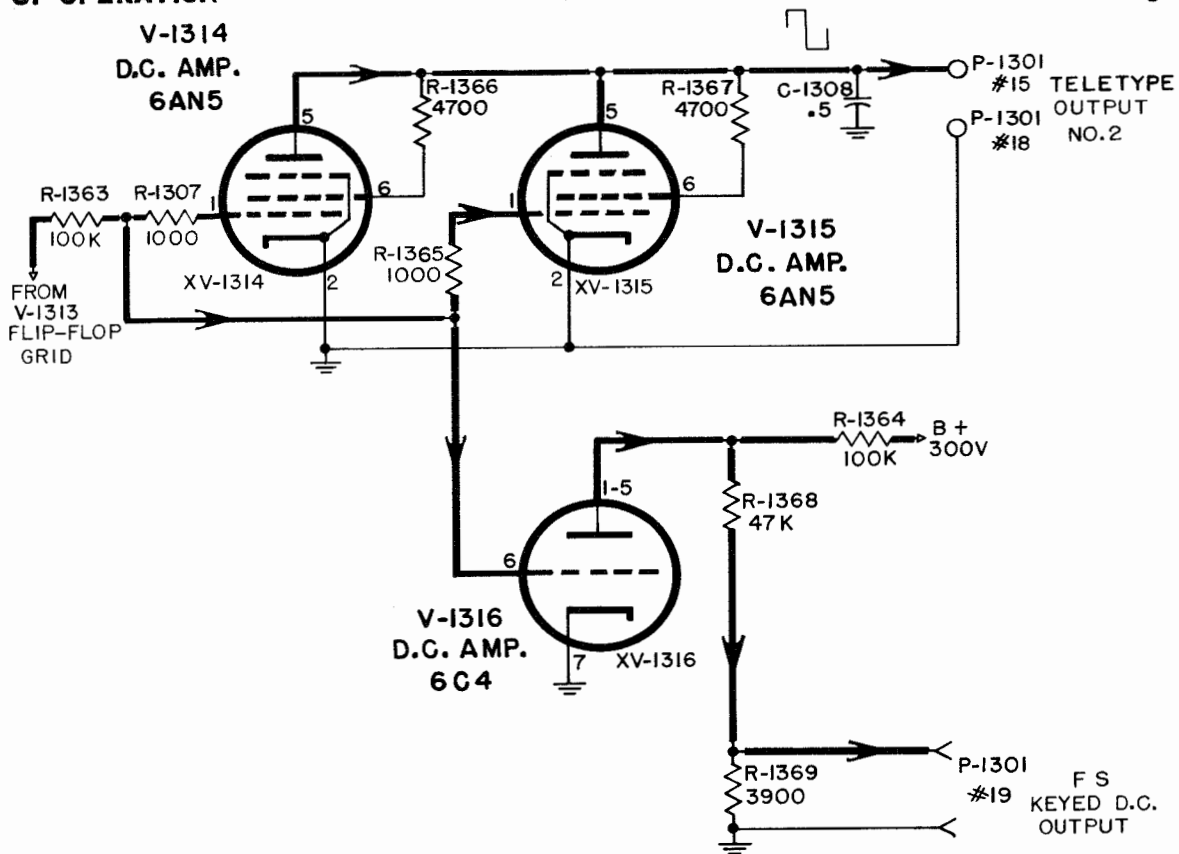

Figure 2-54. D.C. Amplifier Output Stages V-1314, V-1315, V-1316, V-1322, V-1323, V-1324, Simplified Schematic Diagram
(16) D.C. AMPLIFIER OUTPUT CIRCUITS, V-1314, V-1315, V-1316, V-1322, V-1323 AND V-1324 (CM-32/FRR-24). (See Figure 2-54).—Two separate output circuits are provided, one for each channel. Each output circuit operates in the same manner thus the following description of output circuit V-1314, V-1315 and V-1316 is also applicable to the other circuit V-1322, V-1323 and V-1324.